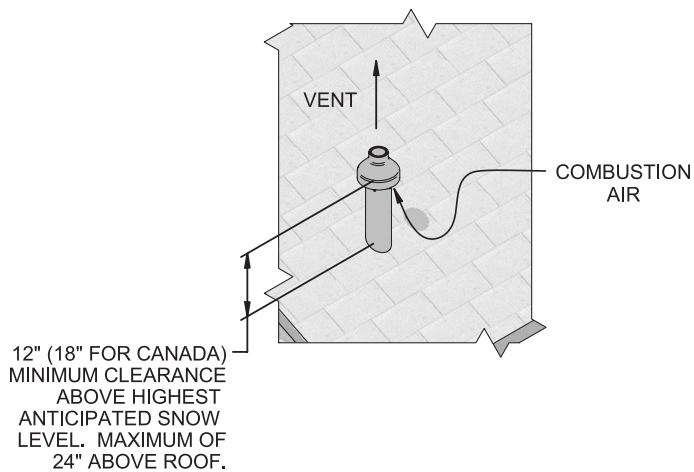

Figure 47. Concentric Vertical Termination
A. O. Smith offers an optional concentric combustion air and vent pipe termination kit. Both combustion air and vent pipes must attach to the termination kit. The termination kit must terminate outside the structure and must be installed as shown in Figure 47.
NOTE: Ensure termination height is above the roof surface or anticipated snow level (12 inches in U.S.A.) as shown in Figure 47 on Page 33.